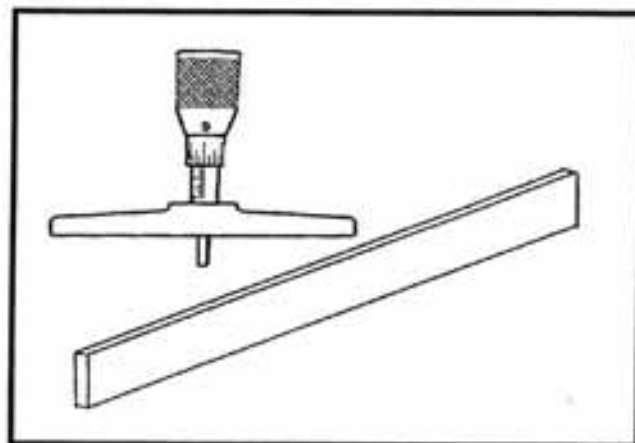
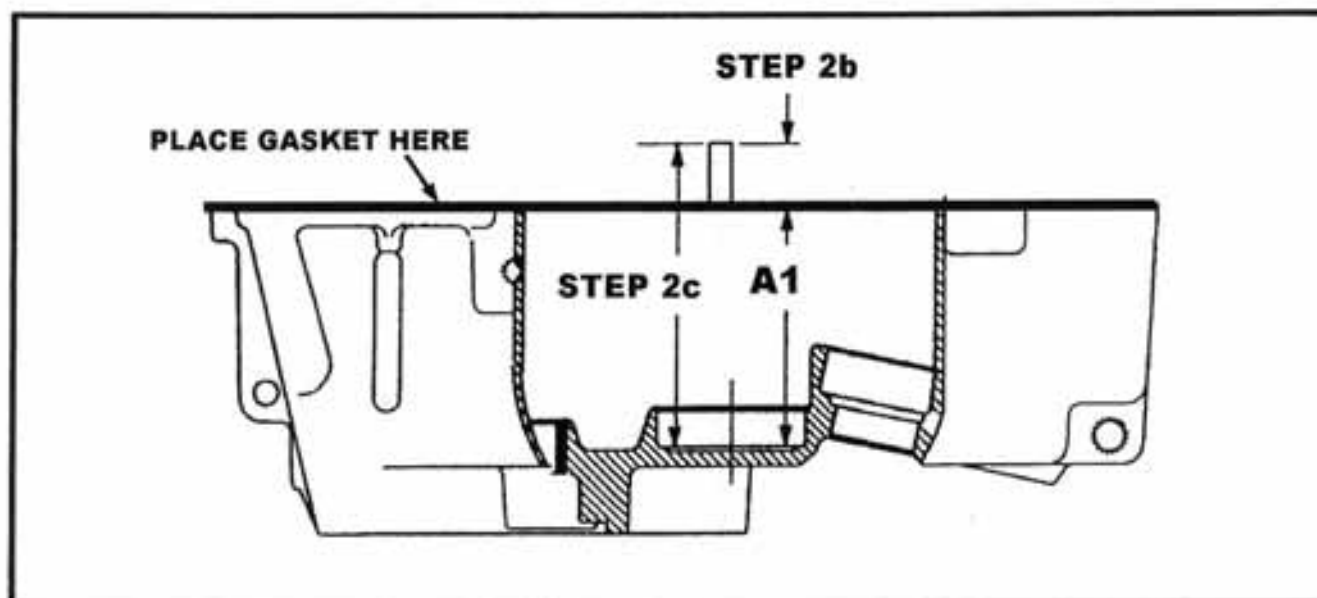

Figure 1-2
Figure 1-3 Case cut away
PROCEDURE A depth micrometer with extensions to reach six (6) inches, and a straight edge bar (figure 1-2) are required. **It is extremely important the straight edge is true and has no bends.**
1. Remove both bearing cups (137 & 142) and shims (138) from the casing (160) and cover (129). A heat lamp or suitable substitute will be required. Usually ten minutes with a 600 watt lamp will do the trick.
2. Measure the distance from the gasket surface to the bearing cup seat in the case as shown in figure 1-3.
- a. Place a cover gasket (130) on case surface. Use petroleum jelly to hold in place.